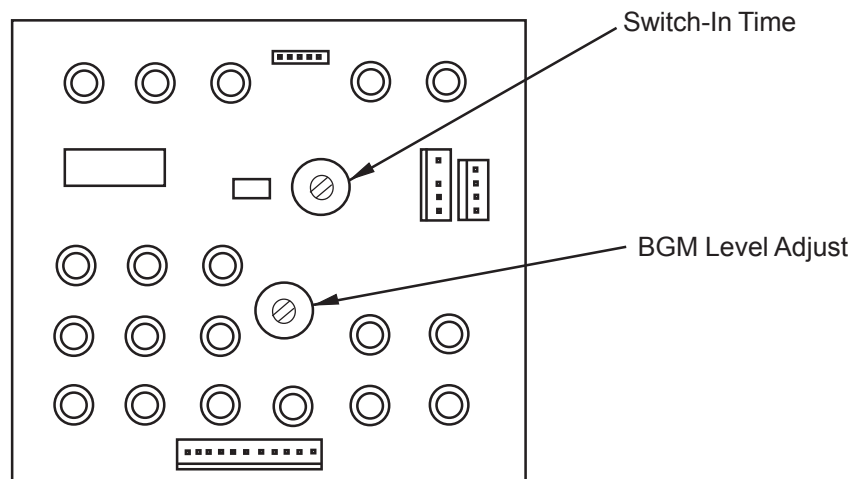

Figure 2. Adjustment Locations
1. Make another selection, while the song is playing, turn the SWITCH-IN TIME ADJUST (see figure 2) fully clockwise, (it should already be in this position if you have just finished the Background Music adjustment). Cancel the record. Approximately 10 seconds after the selection finishes, the background music will begin playing.